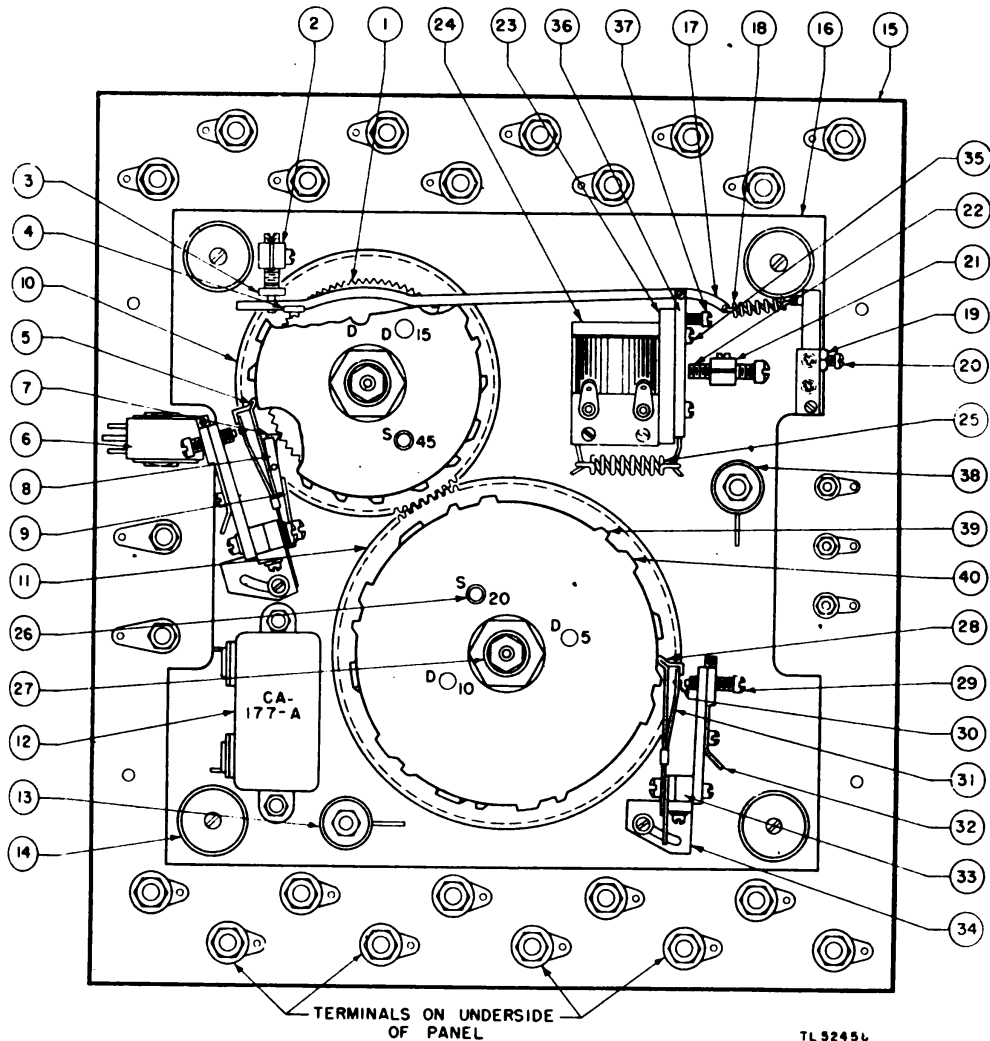

Figure 26. Interval mechanism of Time Interval Apparatus EE-85.
b. DRIVING MECHANISM (fig. 26). The driving mechanism includes a driving magnet (24) and armature (23), a drive bar (17) with a drive-bar block (4), a 90-tooth ratchet wheel (1), and a ratchet pawl (7). The instant that the auxiliary contacts close,